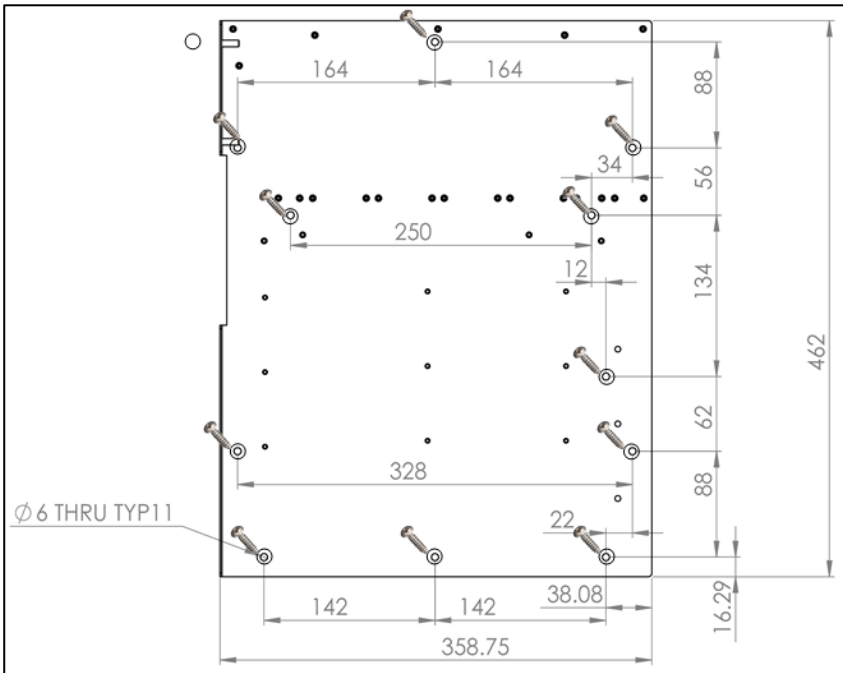
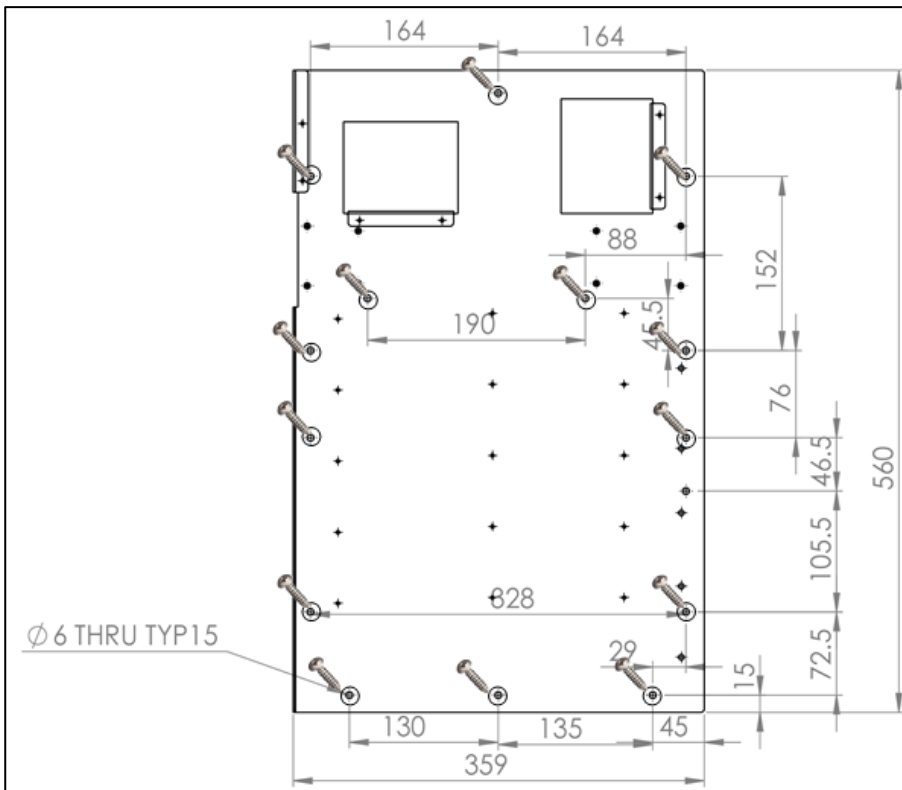

Figure 59: Platinum Pro 30 and Platinum Touch 30 Back Panel Dimensions
Figure 62: Platinum Pro 50 and Platinum Touch 50 Back Panel Dimensions
- Cut a hole in the door that is 20 millimetres larger than the dimensions shown in Figure 59 and Figure 62.